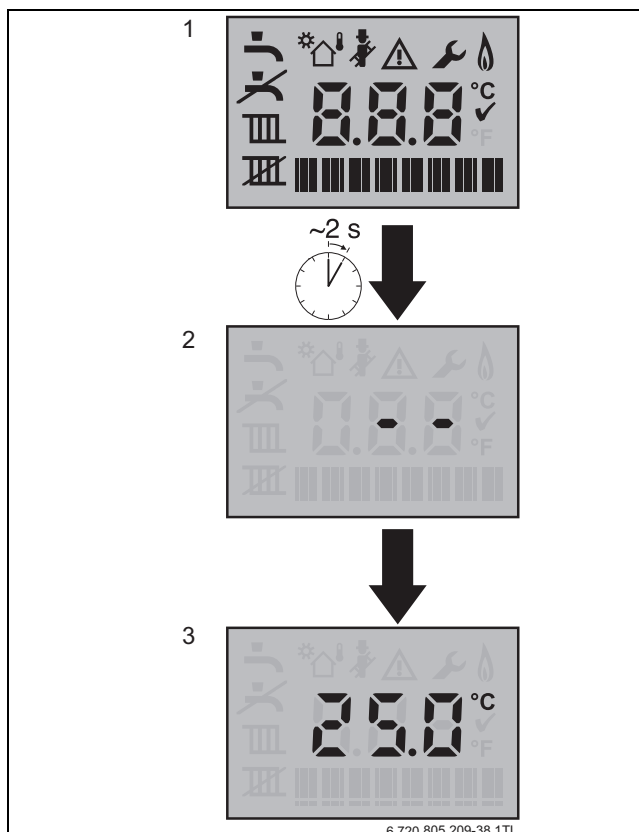

Fig. 52 Start up screens
- ▶ Turn on the mains power supply, initially the “Boiler start up screens” will be displayed (see figure 52:)